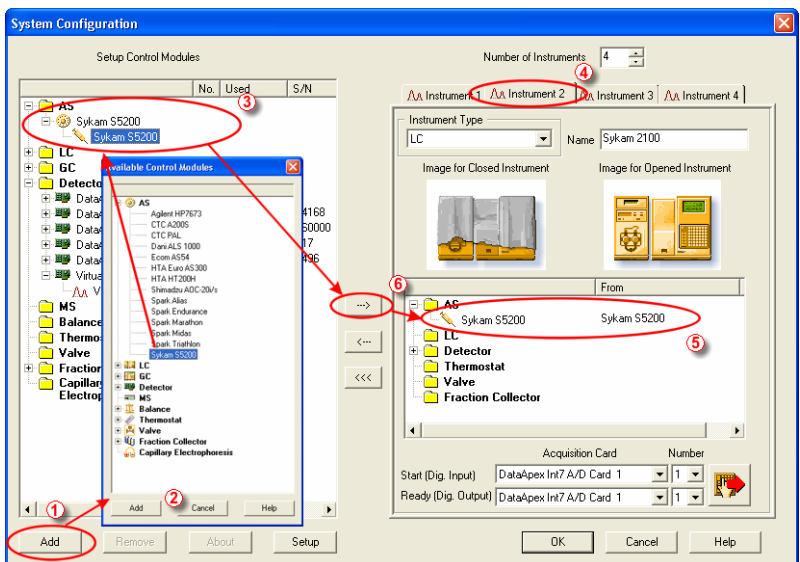

Fig. 6. System Configuration
Instead of the U-PAD, the optional starting cable can be connected to any other A/D converter (e.g. DataApex INT7 card). For the connection to be used for starting the data acquisition, the U-PAD (or the respective A/D converter) must be set as device used for **Start** input in the **System Configuration** dialog (see Fig. 6).
- In the **System Configuration** dialog press the **Add** (① in Fig. 6) button to invoke the **Available Control Modules** dialog.
- Correct settings for the **Start** input must be set in the **System configuration** dialog (see Fig. 6).